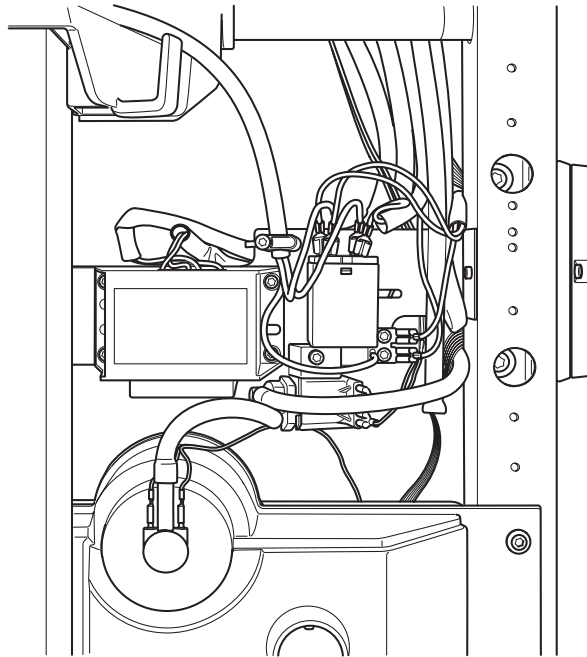

Fig. 13d
- Insert wire branches as shown in fig. 13d.